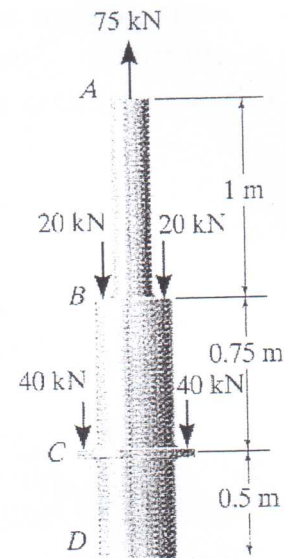

Figure 3.
- (6) The steel bar shown in Figure 3 is made from two segments having cross-sectional areas of $A_{AB} = 600 \text{ mm}^2$ and $A_{BD} = 1200 \text{ mm}^2$. Determine the vertical displacement of end A and the displacement of B relative to C . ($E = 200 \text{ GPa}$.)